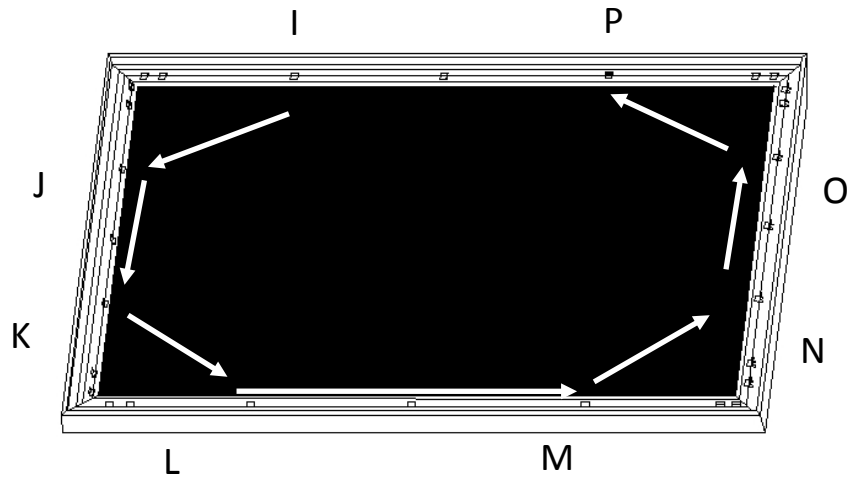

Fig.7
- (5) Next, fasten a fix plate on the center of each frame side in the following order I→J→K→L→M→N→O→P as shown in Fig.7.